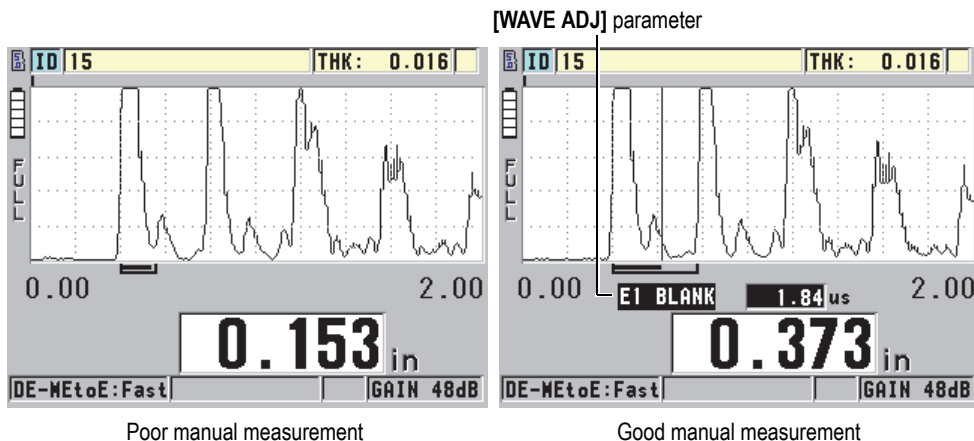

Figure 6-5 Comparing manual measurements
- The wave adjustment parameter appears (see Figure 6-5 on page 76).